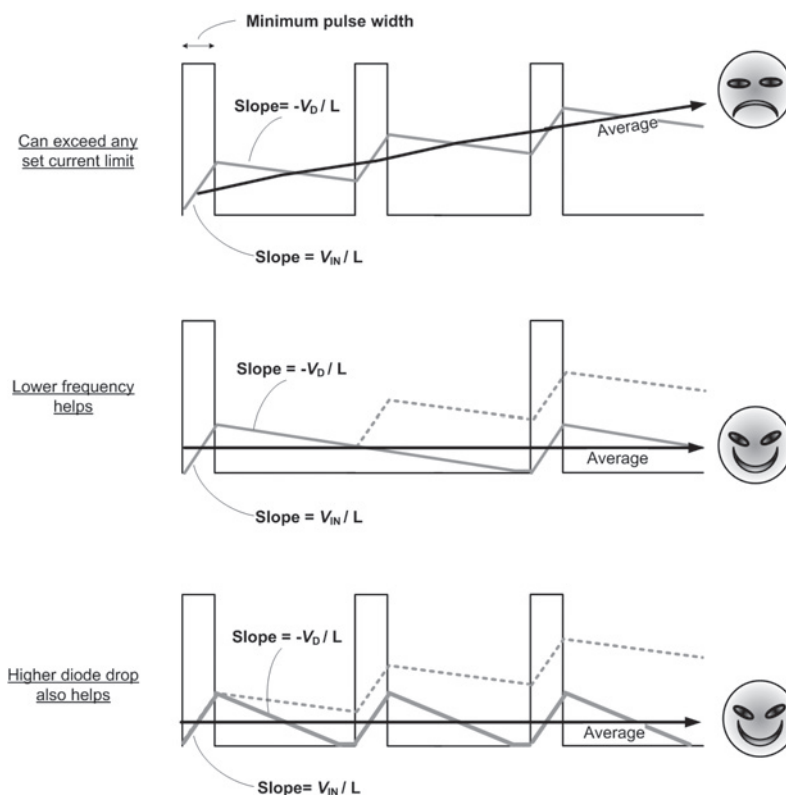

Figure 1-6 Unrestrained Current Ratcheting, and Ways to Prevent It
3. Similarly, a single symptom could have *multiple causes* too. For example, a switch failure during power-up or power-down could be the result of an inadequate transformer design and inadequate duty cycle limiting in the control circuit combining forces inside your AC-DC Flyback. There are actually two things to fix here, not one. Take another example of a shoot-through failure occurring in your Synchronous Buck, which may be the result of both inadequate deadtime and poor Fet selection. Looking at more complex problems such as this one: a device failure on your current mode control Non-Synchronous Buck during output shorts may be the result of a very high switching frequency combining forces with too high a minimum on-time, and too low a diode forward drop, causing the fault current to freewheel without slewing down sufficiently during the off-times, thus causing uncontrolled current staircasing, without the current limit being able to do anything about it. Quite a mouthful, but see Figure 1-6 to understand this a little better.